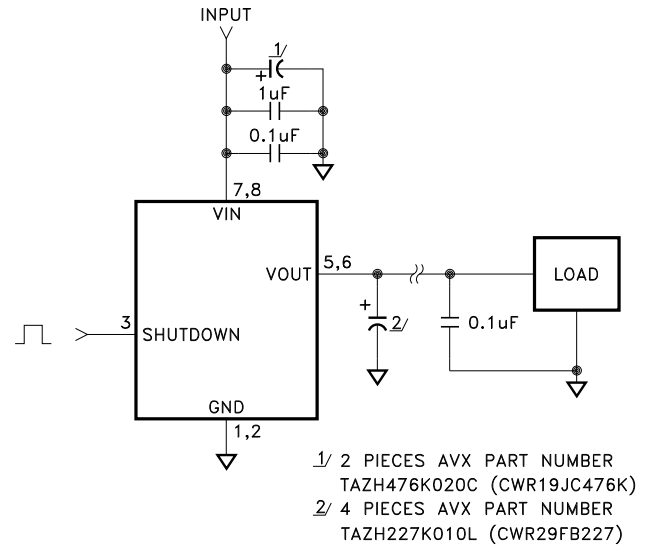

FIGURE 2
- ① Unless otherwise specified, VIN = 3.3V, V_{SHUTDOWN} = 0V and I_{OUT} = 50mA. See figure 2 for typical test circuit.
- ② Guaranteed by design but not tested. Typical parameters are representative of actual device performance but are for reference only.
- ③ Industrial grade devices shall be tested to subgroups 1 and 4 unless otherwise requested.
- ④ Military grade devices ("H" and "K" suffix) shall be 100% tested to subgroups 1,2,3 and 4.
- ⑤ Dropout limited by minimum value of VIN.
- ⑥ Subgroup 1,4 T_C = +25°C